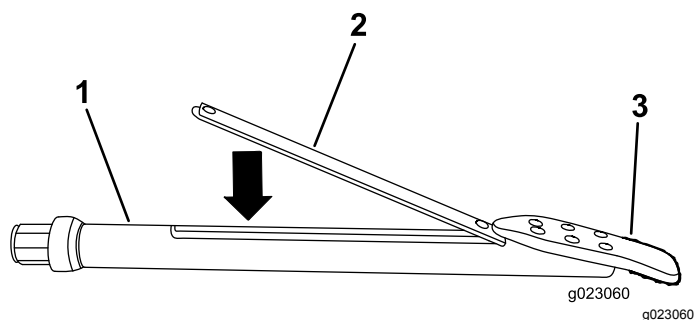

Figure 59
3. Insert the sonde beacon with the forward end toward the drill bit into the sonde housing (Figure 59).